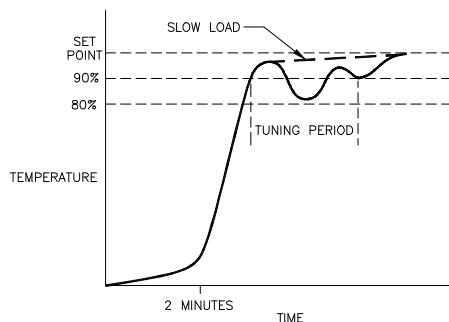

Figure 1 - Auto-tuning
**Auto-tuning:** See Figure 1. Auto-tuning PID parameters are automatically initiated after power up, or when the set point is changed by greater than 100°F. Auto tuning begins when the process temperature is at 80% of set point. During auto tuning the heat proportional band is set to 0, and the control goes into the ON/OFF mode at 90% of the established set point. Once the control finishes "learning" the system, it returns to a standard PID control with the heat PID values automatically set as a result of auto tuning.